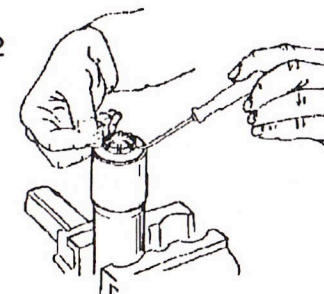

Figure 2.
- Remove the rebound adjustment knob with a small screwdriver. (see Fig. 2)